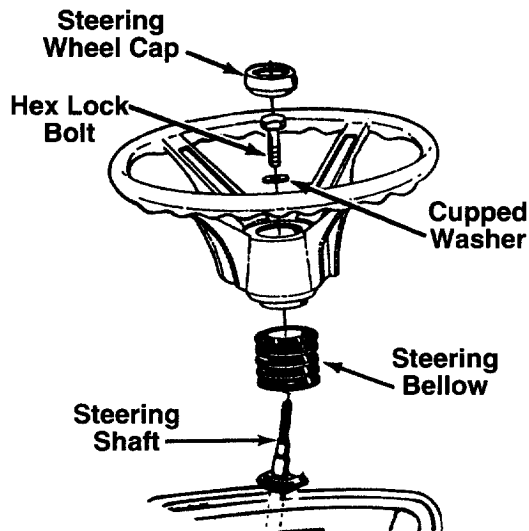

FIGURE 1.
2. Remove the steering bellow from the lift lever on the right hand side of lawn tractor. Place steering bellow over the steering shaft extending through the dash. See figure 1.